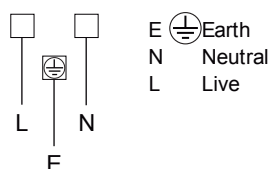

Fig. 2.2
- The new supply cable, of suitable type and section, is connected to the terminal board following the diagram in fig. 2.2.